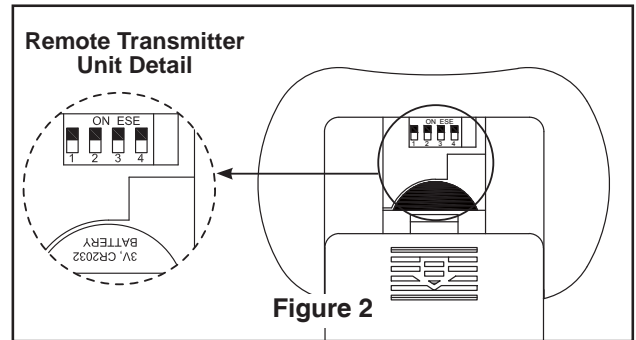
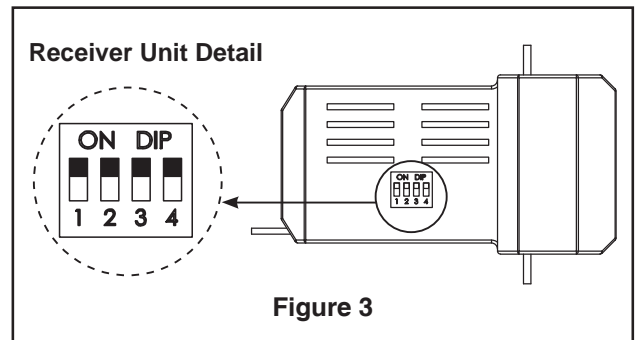

Figure 2
Figure 3
Your new ceiling fan will require a grounded electrical supply line of 120 volts AC, 60 HZ, 15 Amp Circuit. Electrical code requires use of a fan-rated outlet box to support the extra weight and motion associated with a ceiling fan. A fan-rated box will be labeled as such and typically supports up to a 70lb ceiling fan. Fan-Rated Outlet Boxes vary in ratings and design. Ensure the ratings of your ceiling fan outlet box meet the requirements for the ceiling fan being installed. Figure 1, Figure 2 and Figure 3 depicts different structural configurations that may be used for mounting the outlet box.
Deeper profile usage diagram idea (Figure 2)
No blocking (Figure 3)
- 2. Remove the hairpin clip and clevis pin from the bottom of the downrod. Retain the pin and clip for reinstallation in Step 4. (Figure 2)
- 3. Loosen the two set screws in the downrod support of the motor assembly. Route the black, white and blue wires through the downrod. (Figure 3)
The fan must be hung with at least 7' of clearance from floor to blades. (Figure 2)
- 1. Securely attach the hanger bracket to the outlet box using the outlet box screws and washers supplied with the outlet box (Figure 3).
- 1. To set the transmitter code, remove battery cover by pressing firmly below arrow and sliding cover off. Slide code switches to your choice of up or down position. Factory setting is all up. Do not use this position. With a small screwdriver or ball point pen slide firmly up or down. Replace battery cover on the transmitter (Figure 2).
- 2. To set the receiver unit code, slide code switches to the same positions as set on your transmitter (Figure 3).
- 2. Securely attach and tighten the canopy screw cover over the shoulder screws in the hanger bracket utilizing the keyslot twist-lock feature. (Figure 2)
- 2. Securely fasten the three blades with washer-head screws with fiber washers. Do not over-tighten. (Figure 2)
2. Remove one of the four screws in the support bracket at the bottom of the motor assembly. Slightly loosen the remaining three screws. Assemble the support-cover switch cup to the support bracket using the three key slots in the support-cover switch cup. Replace the fourth screw and securely tighten. (Figure 2)
3. Connect the 2 single-pin connectors from the light kit housing to the 2 single-pin connectors from the motor assembly. (Figure 3)
2. To make fan operational, install two 3-volt batteries (included) in the hand-held remote transmitter. If not using for long periods of time, remove battery to prevent damage to transmitter. Store the remote away from excessive heat or humidity. (Figure 2)
3. The 5-button hand-held remote transmitter includes buttons for high, medium and low fan speeds as well as fan off and light on/off. (Figure 3)
(Including in the control).(Figure 2)